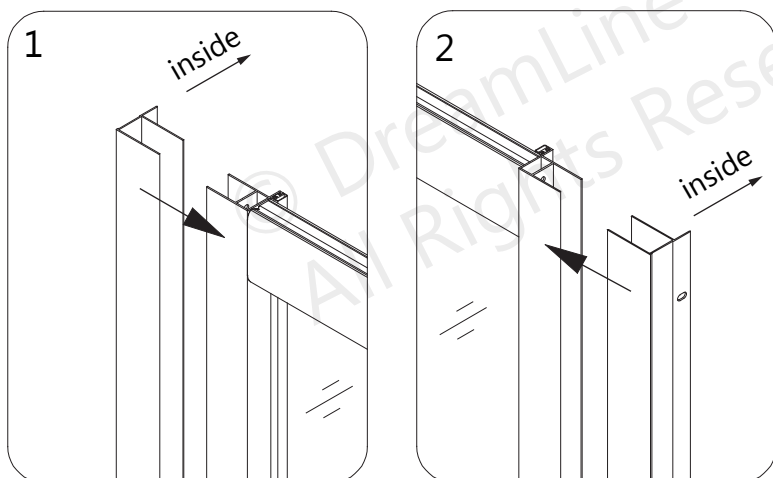
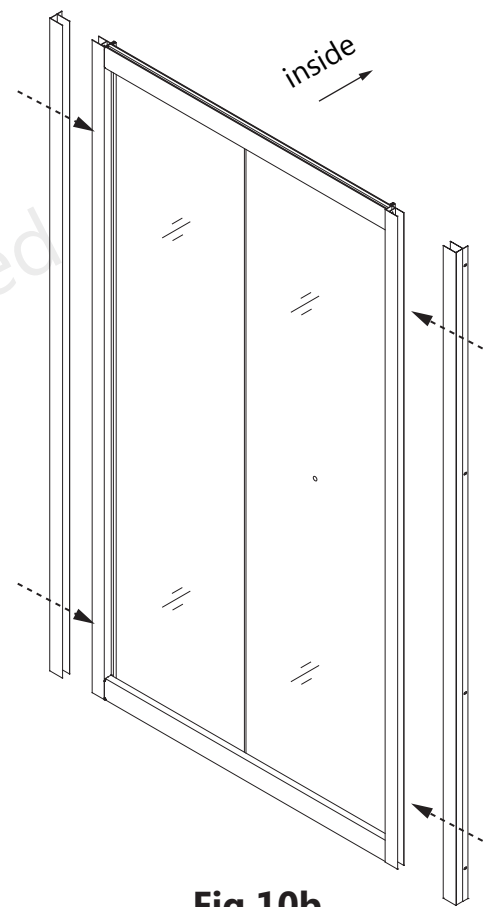

Fig 10a
Fig 10b
10. Slide the two **Wall Profiles (#01)** over both of the **Glass Profiles (#02)**. Be sure to position the **Wall Profiles (#01)** so that the flange with the predrilled holes faces inside the shower. (**Fig 10a and Fig 10b**)